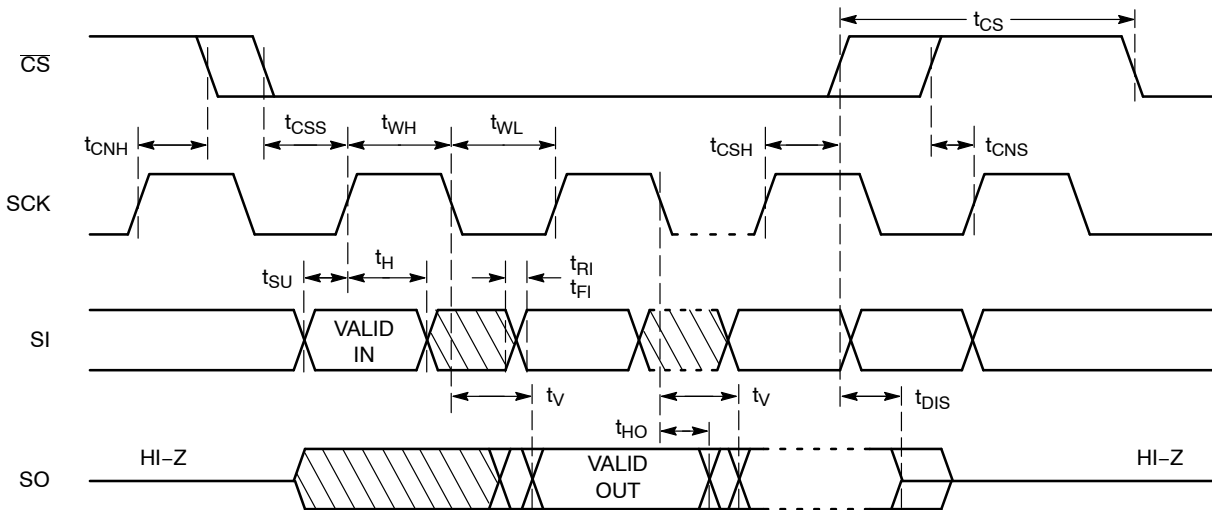

Figure 2. Synchronous Data Timing
7. **All Chip Select (CS) timing parameters are defined relative to the positive clock edge (Figure 2). t_{CSH} timing specification is valid for die revision C and higher. The die revision C is identified by letter "C" or a dedicated marking code on top of the package. For previous product revision (Rev. B) the t_{CSH} is defined relative to the negative clock edge.**
After a high to low transition on the \overline{CS} input pin, the CAT25080/160 will accept any one of the six instruction op-codes listed in Table 9 and will ignore all other possible 8-bit combinations. The communication protocol follows the timing from Figure 2.